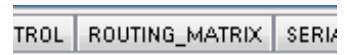

Figure 39. Selecting the **ROUTING\_MATRIX** Tab
3. Click the **ROUTING\_MATRIX** tab (see Figure 39) to allow the configuration of the routing matrix.